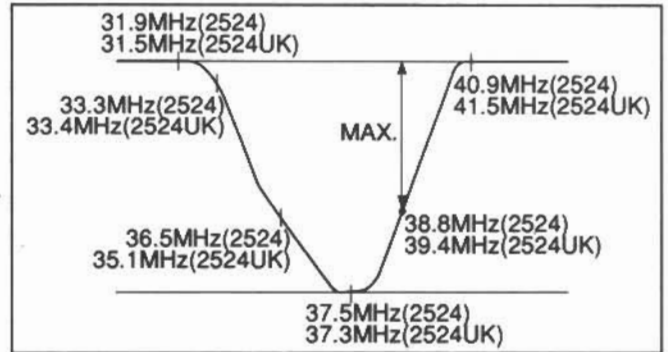

Fig. 2
5. Adjust T201 to the maximum amplitude at 38.8 MHz marker. (type: 2524) (Refer to Fig. 2)